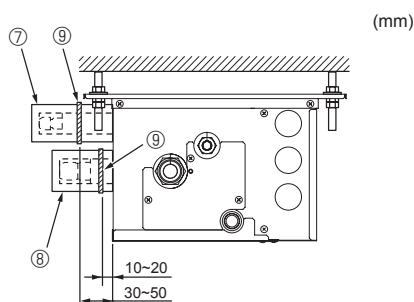

Fig. 7-5
- Ⓕ Band ⑨
- Ⓖ Pipe covers ③ ④ ⑤ ⑥
- ⑨ Refrigerant piping
- ① Thermal insulation for refrigerant piping
► Use the following procedures for indoor connection part which indoor unit is not connected. (Fig. 7-5)
- (1) In order to prevent refrigerant leaks, make sure that the flare nuts are tightened according to the specified torques* in Table 3.
- (2) In order to prevent condensation, install the pipe covers ⑦ ⑧ and fasten them with the supplied bands ⑨.